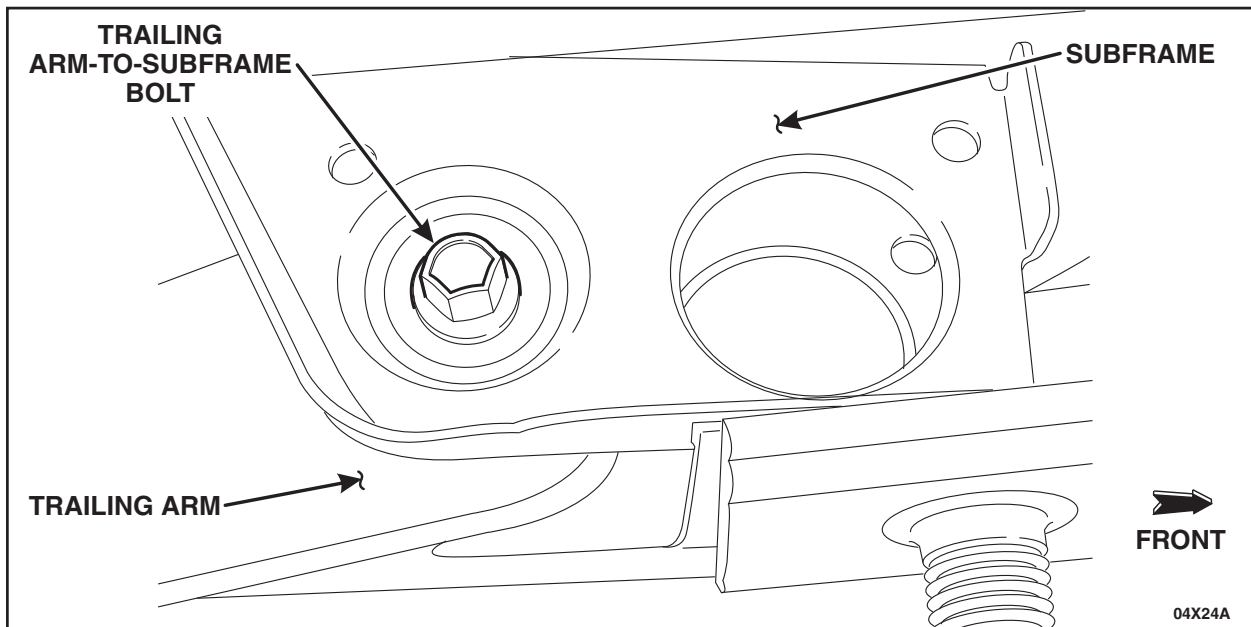

FIGURE 13
9. Remove the trailing arm-to-subframe bolts. See Figure 13.
13. Using a High Lift Transmission Jack 014-00942 or equivalent, raise the rear axle assembly in position and install the trailing arm-to-subframe bolts. See Figure 13.